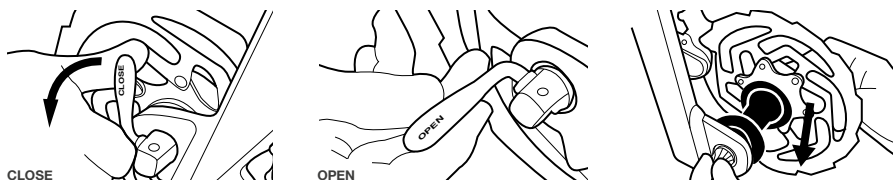

Figure 15. Opening the quick release axle
1. Open the axle's lever. You should now be able to read the engraved "OPEN» on the lever as in *Figure 15*.